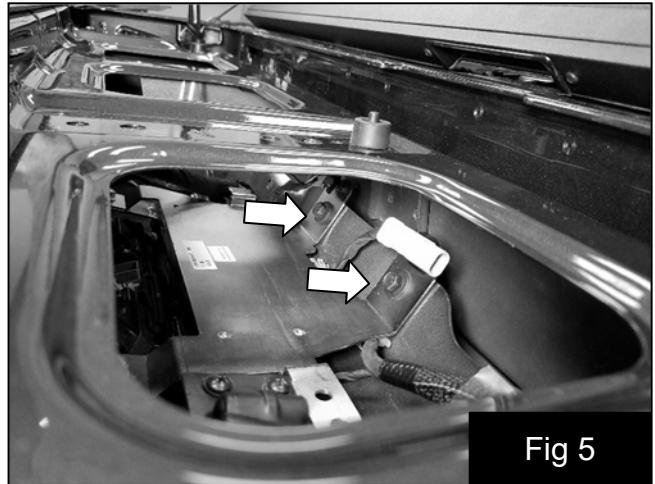

Fig 5
7. Install the amplifier mounting bracket through the right of center hole and secure with the tailgate handle bolts and the two supplied bolts. Fig 5